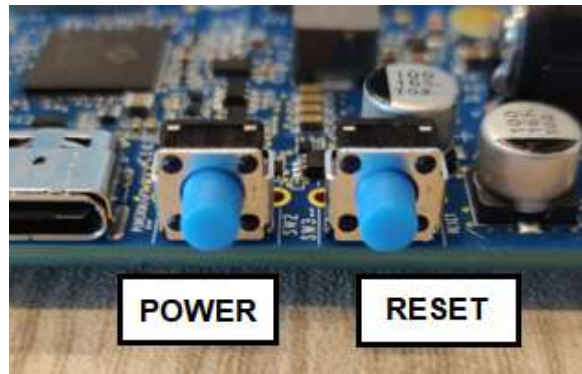

Figure 4. Power and reset buttons in the Hailo-15H SBC2.x
1. Power off the Hailo-15H SBC. See Figure 4